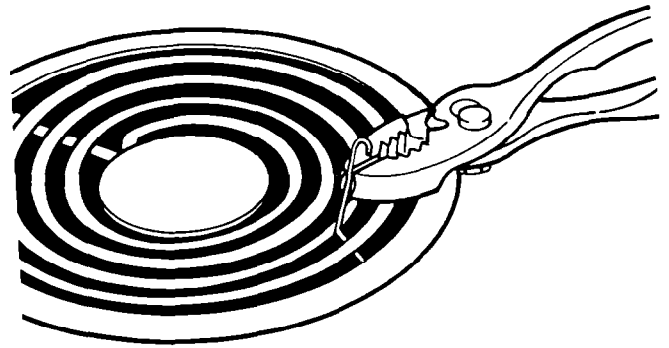

FIGURE 9
- A. Lift clip with pliers or screwdriver. Bend clip to a vertical position. See **Figure 9**.